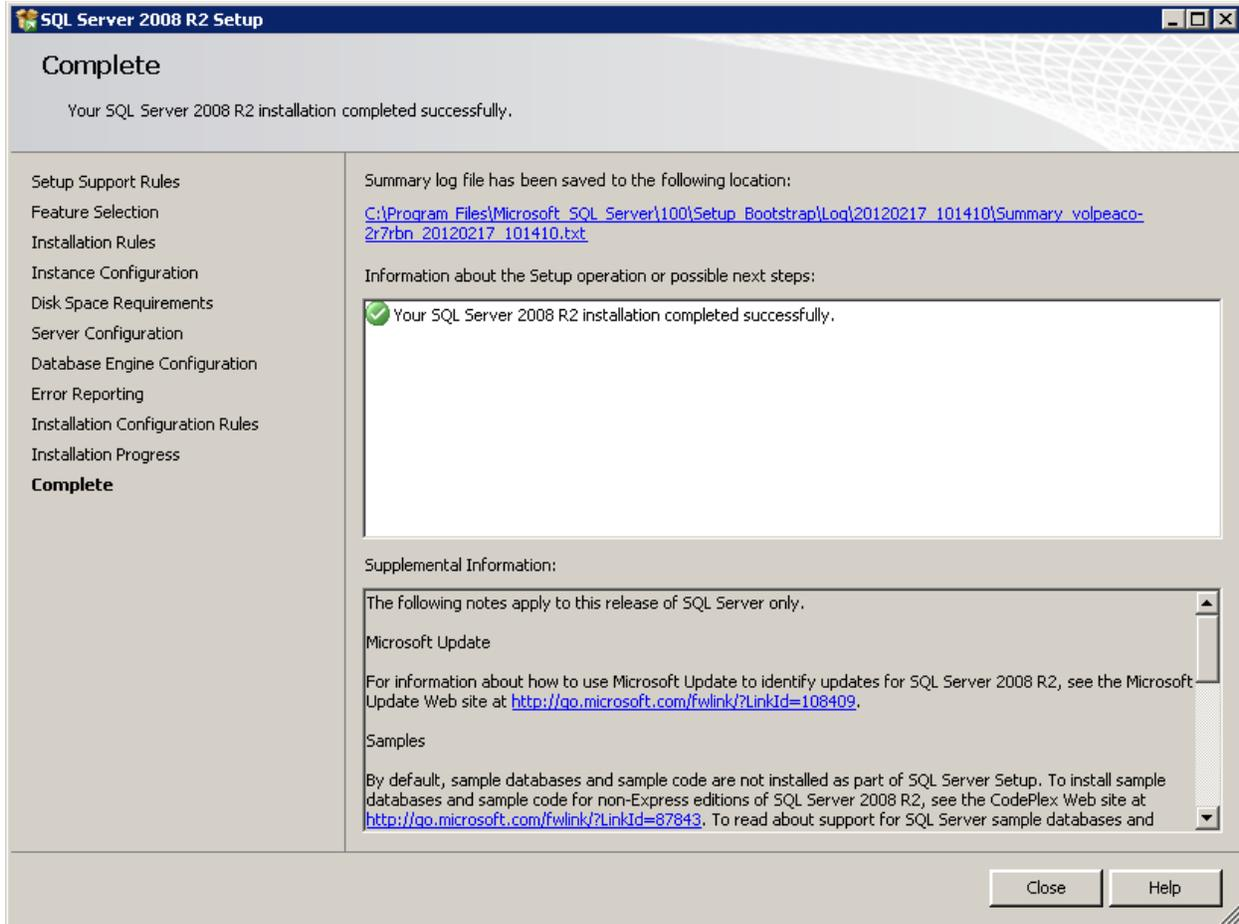

Figure 2-9 SQL Server 2008 R2 Setup – Complete
15. *Complete*: The final screen will confirm that the installation was successful (Figure 2-9). Click the *Close* button to close the *Setup* window.